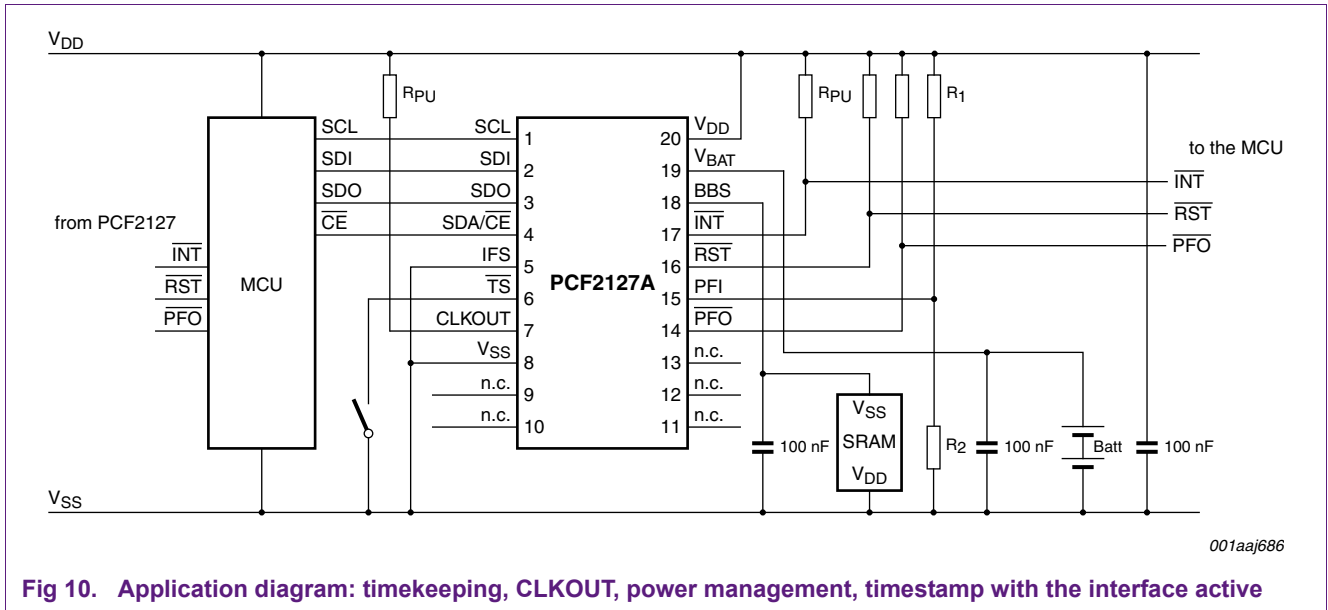
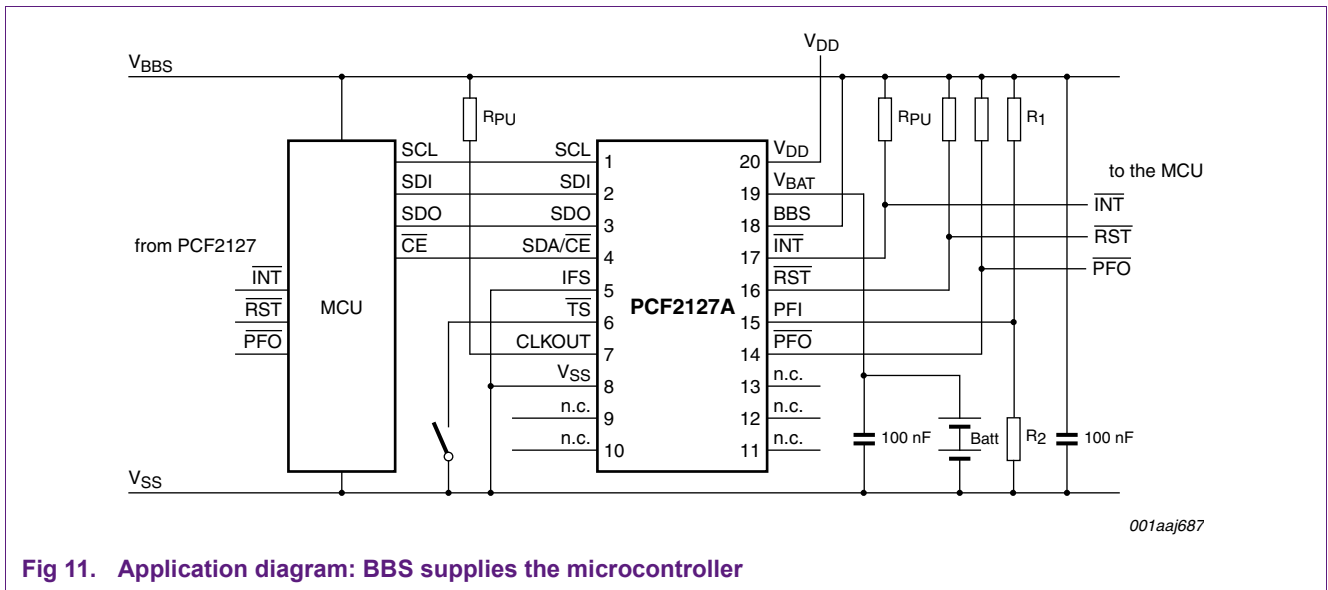

Fig 10. Application diagram: timekeeping, CLKOUT, power management, timestamp with the interface active
Fig 11. Application diagram: BBS supplies the microcontroller
PCF2127A used for timekeeping, power management, CLKOUT and timestamp functions (see Figure 10):
- BBS supplies an external device, e.g. SRAM (see Figure 10) or a microcontroller (see Figure 11)